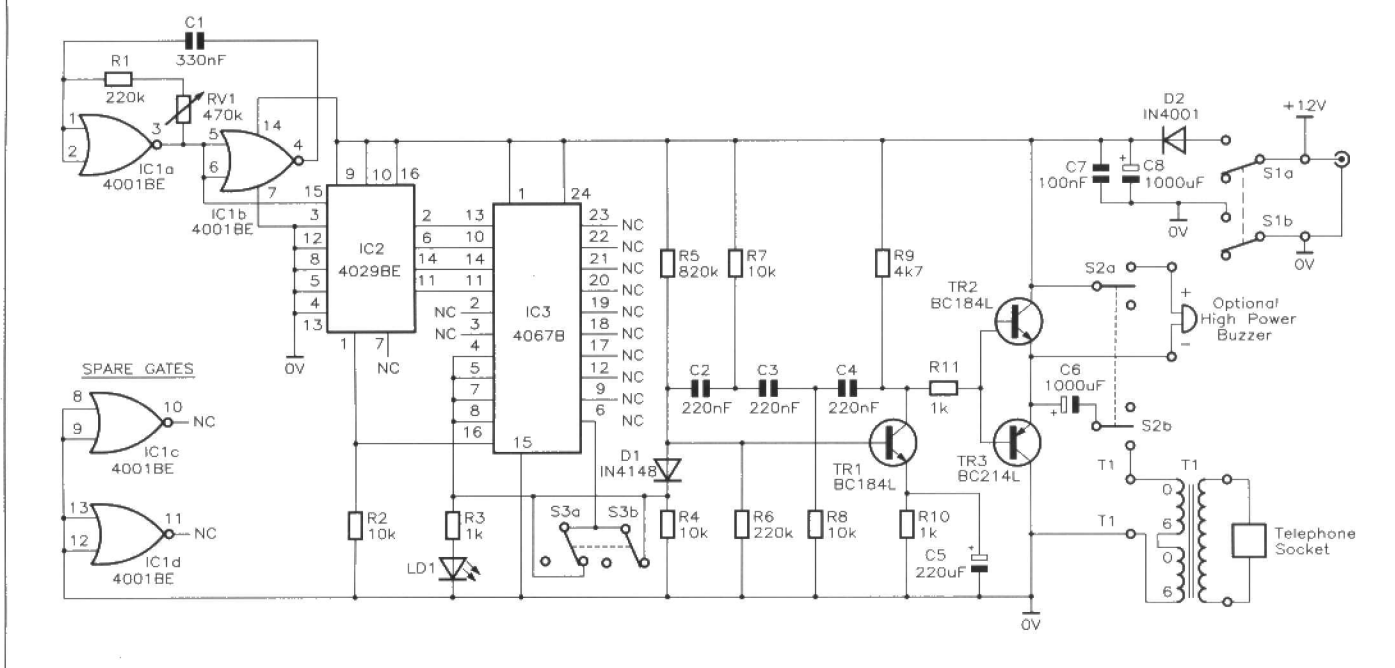

Figure 4. AutoRing circuit diagram.
by an astable multivibrator based around two of the NOR gates in IC1, a CMOS 4001B device (the other two gates are not used); refer to the circuit diagram of Figure 4. The clock period, typically 0.2 seconds, is determined by C1 and RV1/R1. Note that RV1 provides quite a large range of adjustment. The output of the astable is fed into the clock input of a 4029B counter, IC2, which is configured to provide a 4-bit binary count ranging from 0000 (0) to 1111 (15). The four outputs are present at pins 6 (Most Significant Bit – MSB), 11, 14 and 2 (Least Significant Bit – LSB). Each time a clock pulse is received at its input, the binary count is advanced by 1 – see Table 1. The counter outputs are used to determine the switch position; IC3 requires 4 control bits (from the counter) at pins 10 (MSB), 11, 14 and 13 (LSB). The decimal value of the 4-bit binary input (see Table 1) corresponds to the switch position selected (0001, position 1; 0010, posi-